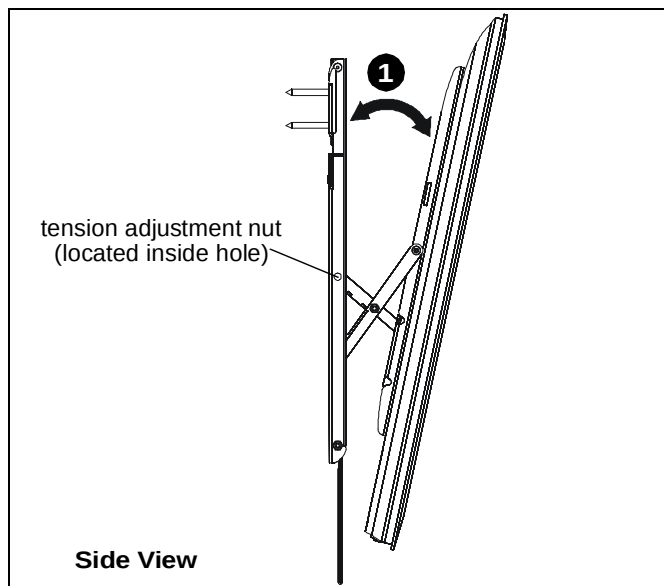

Figure 6
1. Display may be tilted forward by pulling forward on the top of the display as desired. (See Figure 6)
2. Tilt tension is adjustable by using 3/16" hex key (Z) in the tension adjustment nut. (See Figure 6)